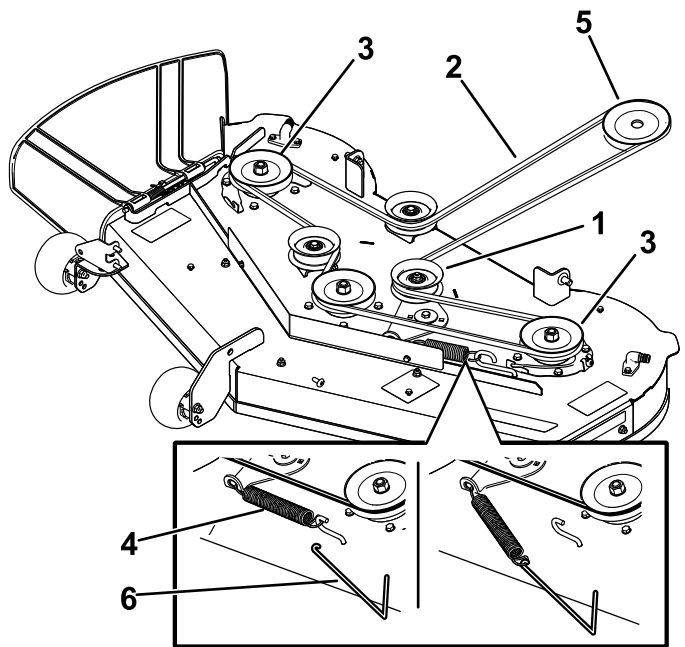

Figure 55
5. Using a spring-removal tool (Toro Part No. 92-5771), remove the idler spring from the deck hook to remove tension on the idler pulley, and roll the belt off the pulleys (Figure 55).
6. Route the new belt around the engine pulley and mower pulleys (Figure 55).
7. Using a spring-removal tool (Toro Part No. 92-5771), install the idler spring over the deck hook and place tension on the idler pulley and the mower belt (Figure 55).